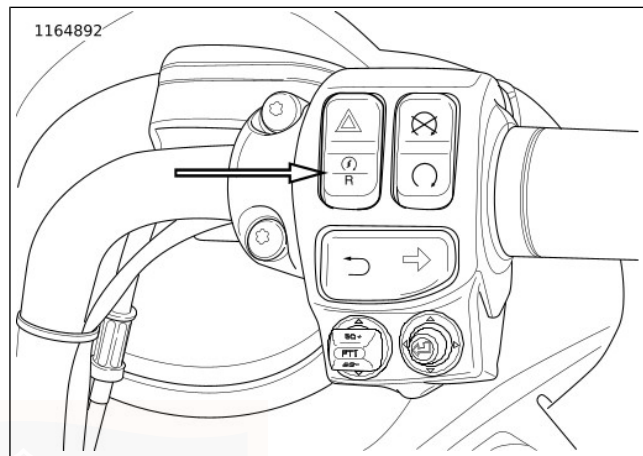

Figure 47. Reverse Switch (typical)
2. See Figure 47. With the vehicle started and in neutral, press and hold the reverse switch in the right side controls until the reverse lamp illuminates. **With fairing:** The lamp in the tachometer indicates that the reverse is enabled. See OPERATION > INSTRUMENTS (Page 81). **Without fairing:** The lamp in the speedometer indicates that the reverse is enabled. See OPERATION > INSTRUMENTS (Page 81). Release the reverse switch. The neutral lamp turns off when the reverse lamp turns on.